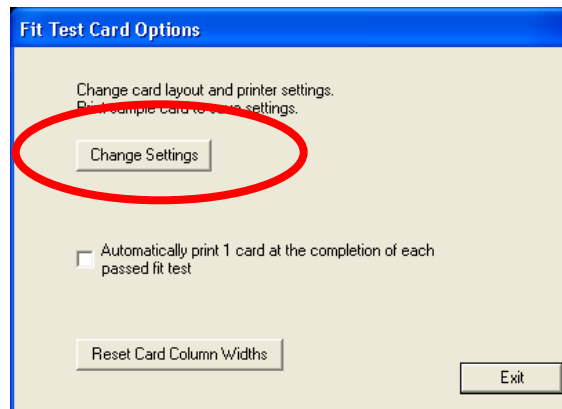

Figure 10-4. Fit Test Card Options Dialog
4. Click **Change Settings** (Figure 10-4) to access the card layout screen.